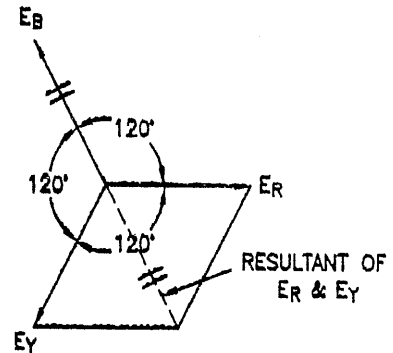

FIG. 2.78 : ADDITION OF THREE PHASE EMFS
- This fact can also be verified from the phasor diagram shown in Fig. 2.78. The same result can also be verified from mathematical concept as given below.